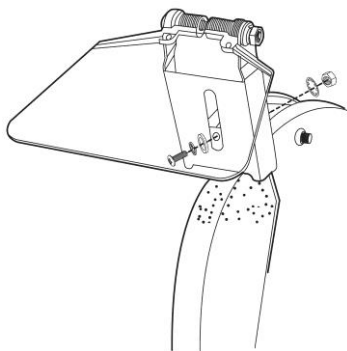

Fig.2
- 1.Align the slit on the spark deflector (5) with the hole on the top of the wheel guard (6).
- 3.Thread a screw (10a) through the spark deflector slit (5) and the hole on the top of the wheel guard (6) (Fig.2).